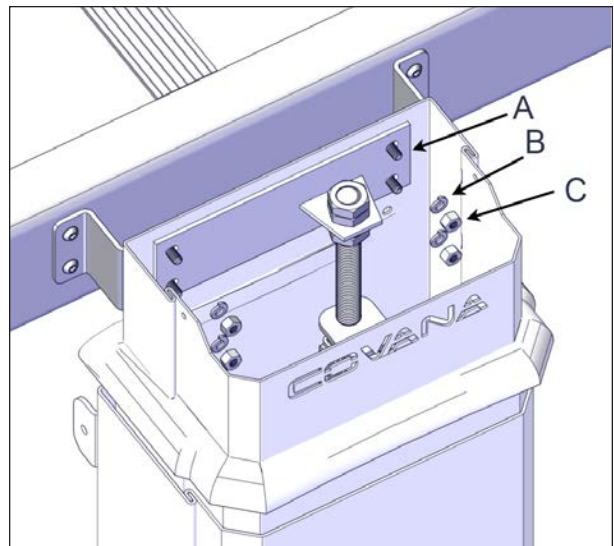

FIGURE 110: JACK ADAPTER SCREW REMOVAL
3. Remove the 1/4-20 x 3/4" carriage bolts (4) of the jack adapter, from each post using a 7/16" (11 mm) socket wrench, see Figure 110.